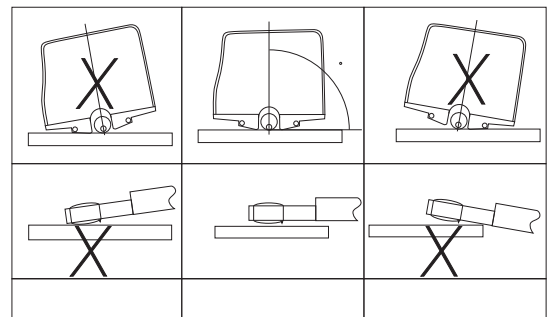
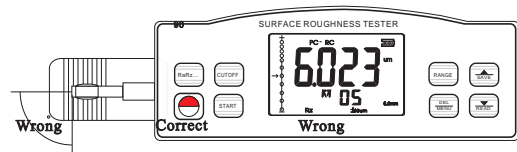

Fig. 4-1
Fig. 4-2
- I. Refer to Figure 4-1 and Figure 4-2 to place the instrument correctly, stably and reliably on the surface to be measured.
- J. Refer to Figure 4-2, the sliding trail of the sensor must be vertical to the direction of process line of the measured surface.